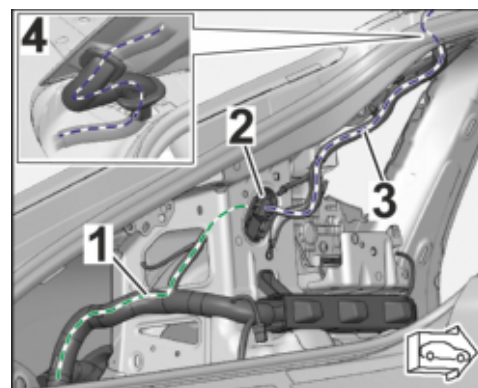
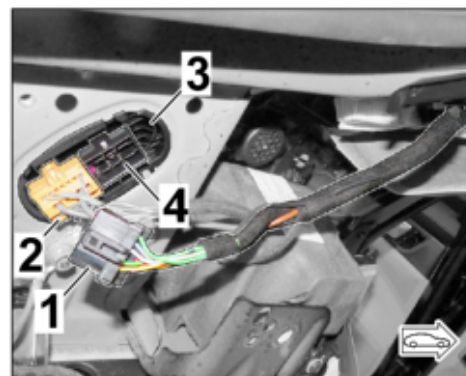
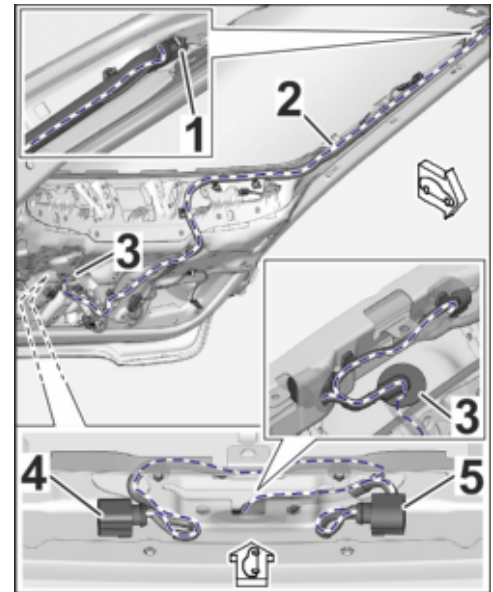
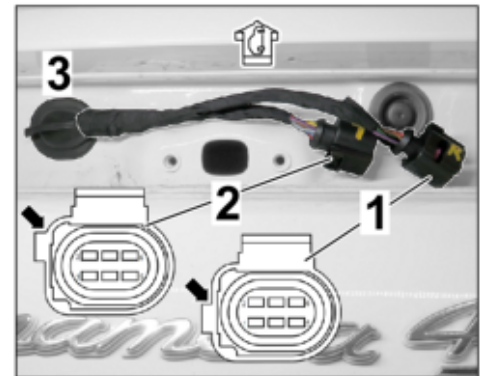

Figure 14
Figure 15
Figure 16
Figure 17 (Sport Turismo)
2.2.3 Rear lid connection point area, left C-pillar (see also wiring diagram 45A – left rear cap) ⇒ Figure 14
Disconnect plug connections, 17-pin (black and brown) and remove plug connections holder from the C-pillar if necessary. ⇒ Figure 15
Overview of routing of wire harness for module HKL_le: ⇒ *Figure 14* and ⇒ *Figure 16*
2.3.1 Tail light in tailgate area (see also wiring diagram 45A – Tailgate, left) ⇒ *Figure 17 (Sport Turismo)*
- Lock connectors (6-pin) on the left and right side. ⇒ *Figure 17 (Sport Turismo)*
2.3.2 Tail light grommet area in tailgate ⇒ Figure 16 -3- and ⇒ Figure 17 (Sport Turismo) -3-
⇒ Figure 14 and ⇒ Figure 15